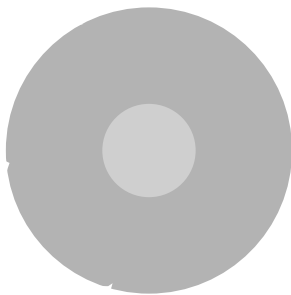

Figure 13
- c) Look through the eyepiece and bring the end face into sharp focus by using the focus adjustment (Figure 13).